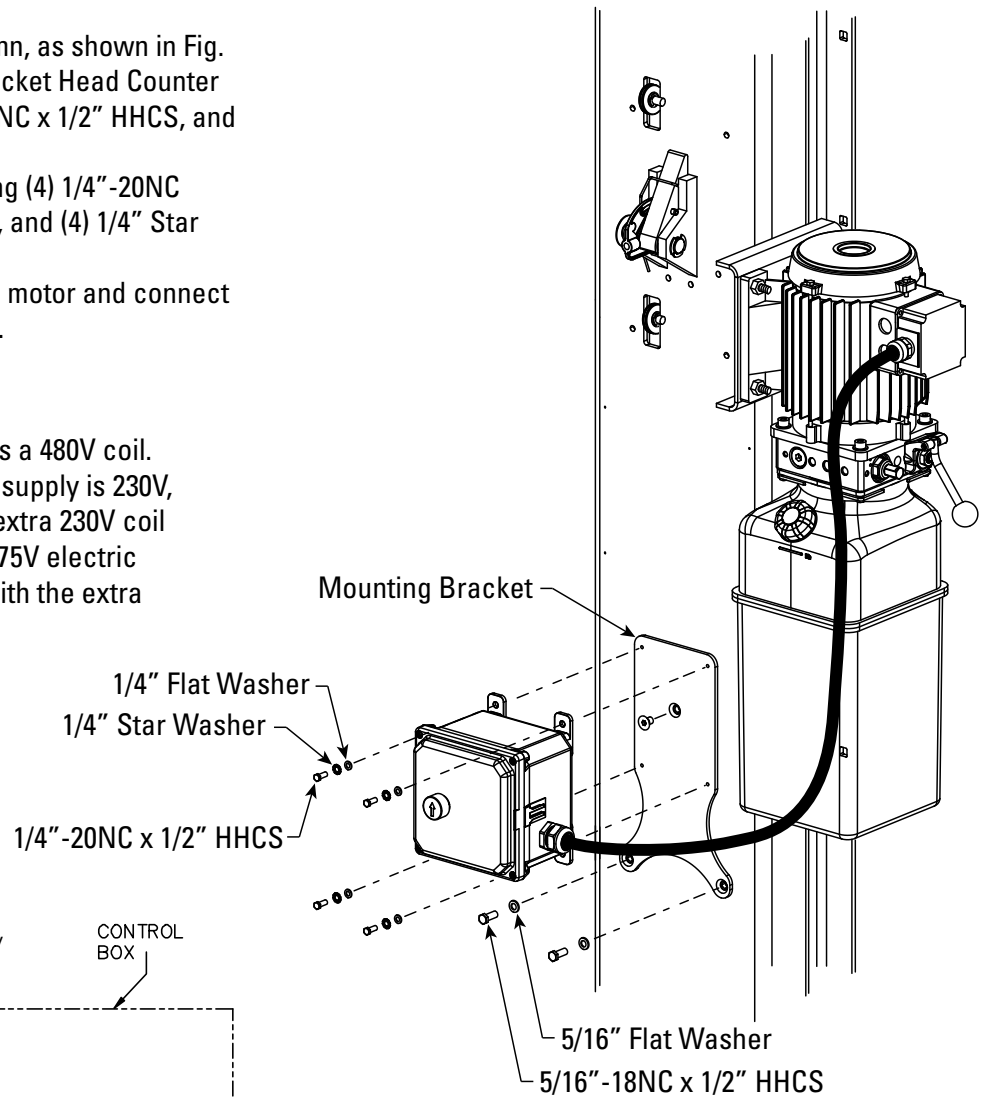

Fig. 22a
- Attach Mounting Bracket on column, as shown in Fig. 22a, using (1) 5/16" -18NC x 1/2" Socket Head Counter Sunk Machine Screw, (2) 5/16" -18NC x 1/2" HHCS, and (2) 5/16" Flat Washers.
- Attach Control Box to Bracket using (4) 1/4" -20NC x 1/2" HHCS, (4) 1/4" Flat Washers, and (4) 1/4" Star Washers.